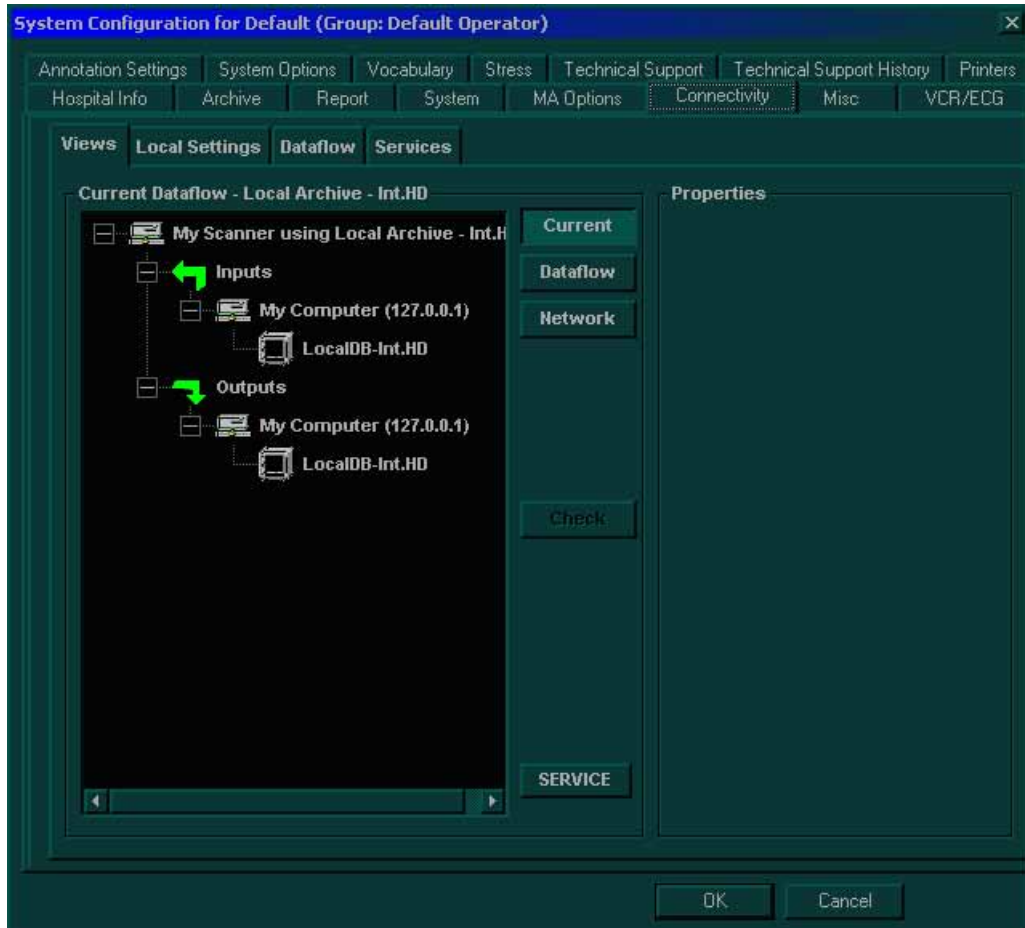

Figure 3-36 Connectivity Tab
- 3) Trackball to the **Connectivity** tab and press **Select**. The **Connectivity** tab is displayed, with the **Views** subsidiary tab selected by default, as shown in Figure 3-36 on page 3-55.
- 2) Trackball to the **Connectivity** tab and press **Select**. The **Connectivity** tab is displayed, with the **Views** subsidiary tab selected by default, as shown in Figure 3-36 on page 3-55.